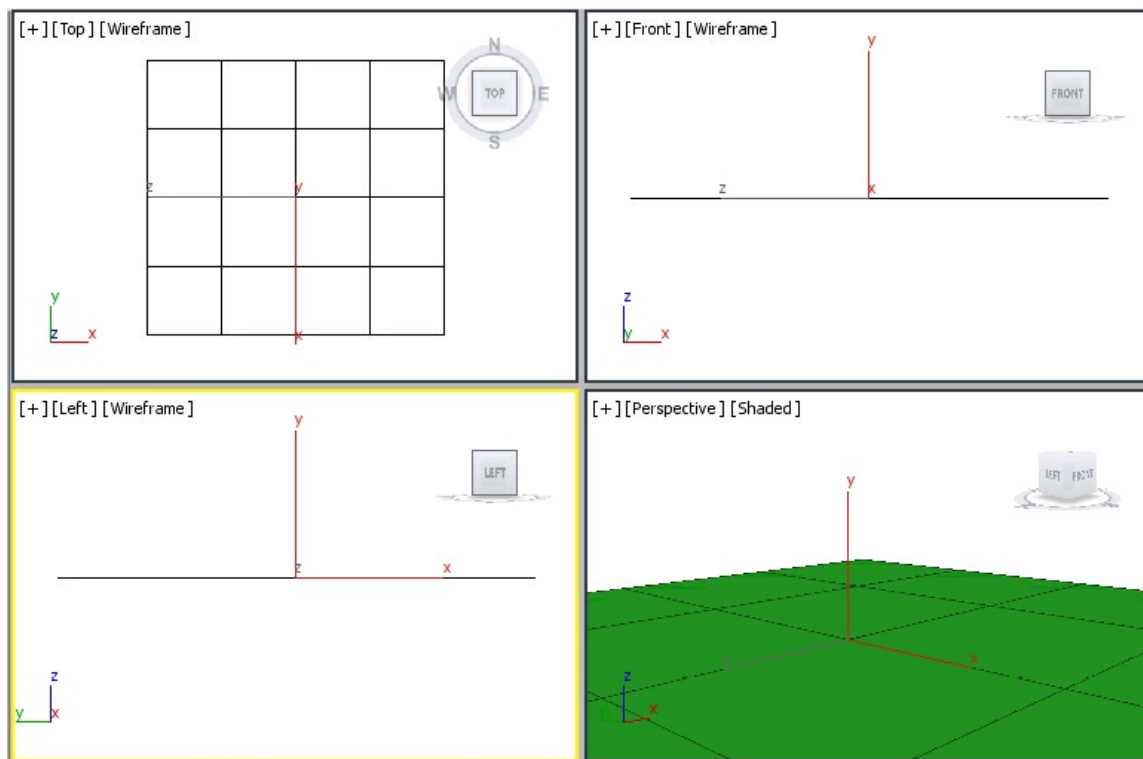

Figure 4-55 The floor geometry after using the **Zoom** and **Orbit** tools
6. Activate the Perspective viewport and set the view using the **Zoom** and **Orbit** tools, as shown in Figure 4-55.